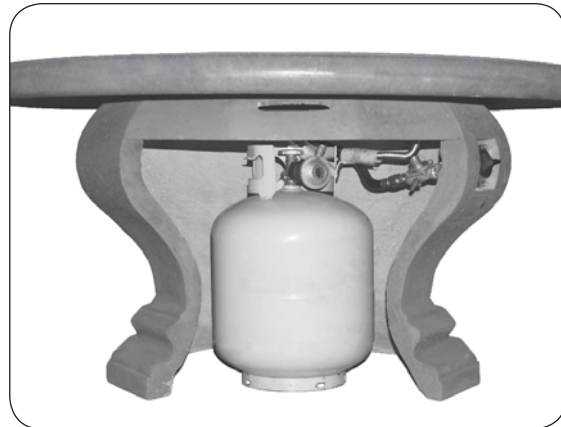

Fig. 29-2 L.P. Cylinder placement
3. The propane cylinder (not included) is to be located inside the base of the unit, via the storage door opening (see Fig. 29-2).